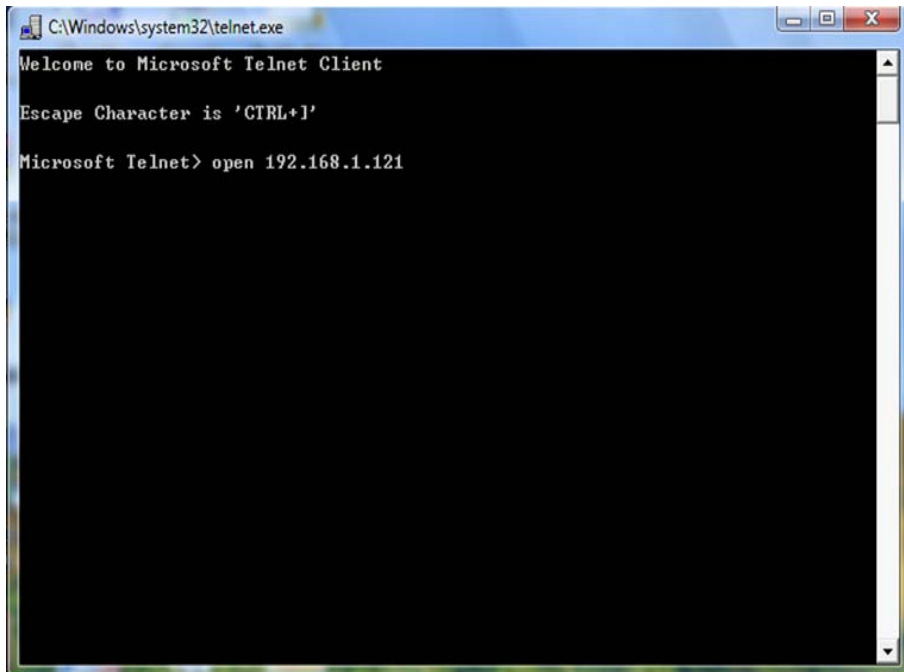

Figure 2-4
2.3.2. Enter the IP address as illustrated in figure 2-4